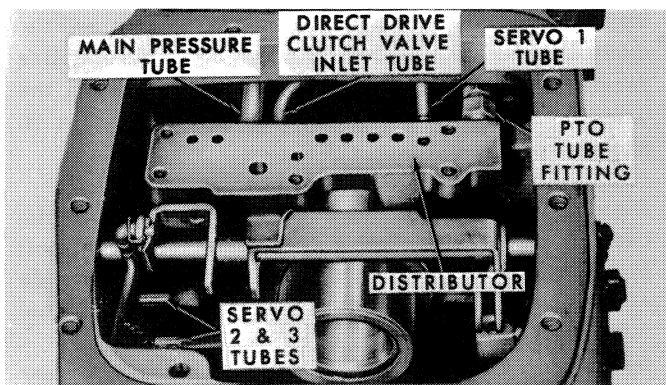

Figure 50
12. Disconnect the fitting that attaches the P.T.O. hydraulic fluid line to the distributor, as shown in Figure 50, and remove the four distributor attaching bolts.